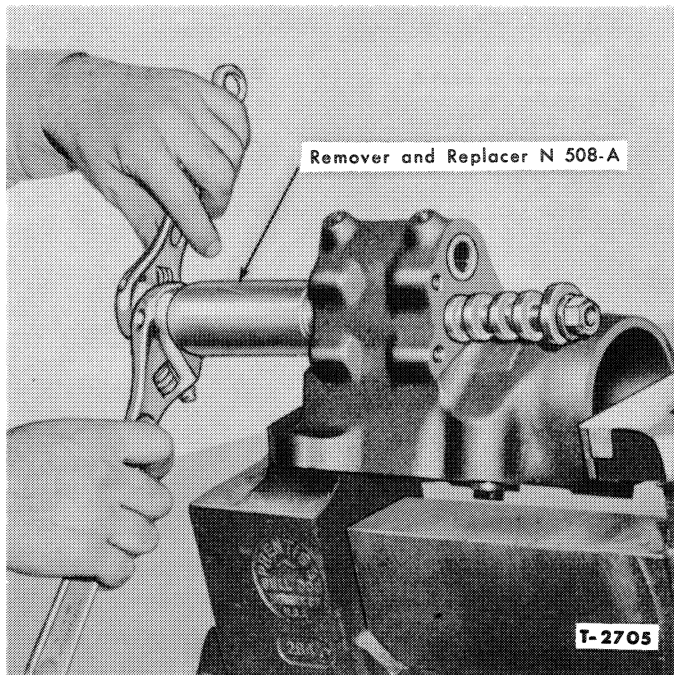

Figure 15—Installing Front and Rear Unloading Valve Bushings
5. With Remover and Replacer, N-508-A, install the front and rear unloading valve bushings so that the large notch in the front of the bushing faces toward the open end of the cylinder. Lubricate the bushing, then pull it into the bore, Figure 15, until it is flush with the machined surface at the open end of the cylinder. If pulled through too far, reverse the tool and retract the bushing until it is flush.